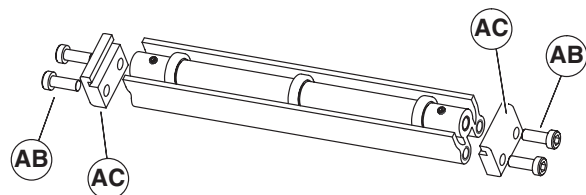

Figure 11
1. Locate return rollers. Exploded view shown in Figure 11.
2. Remove screws (Figure 11, item AB) and clips (AC) from roller assembly.